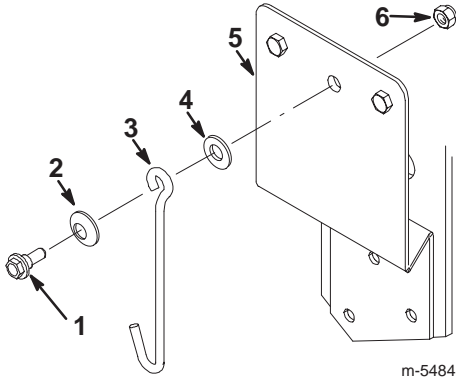

Figure 9
6. Install the shoulder bolt, curved washer (cup facing inward), hook, washer (3/4 in.), and locknut (5/16 in.) (Fig. 9).